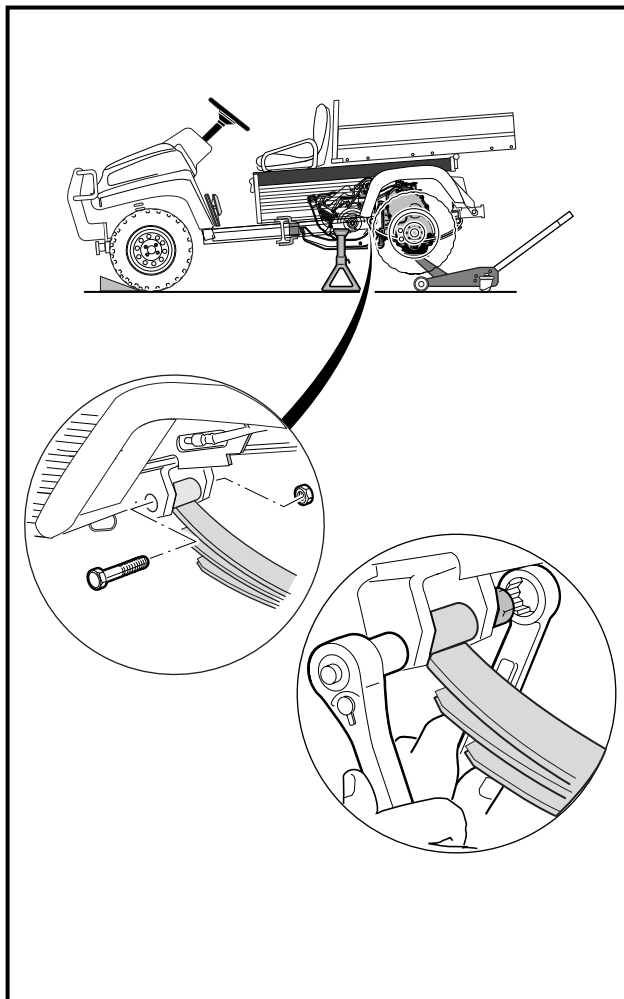

Figure 16-100 Leaf Springs
15. With the floor jack under the transaxle, position the leaf springs in the front spring mounts and install the **grade eight** bolts and locknuts. Tighten to 15 ft-lb (20.3 N·m) (**Figure 16-100, Page 16-41**).